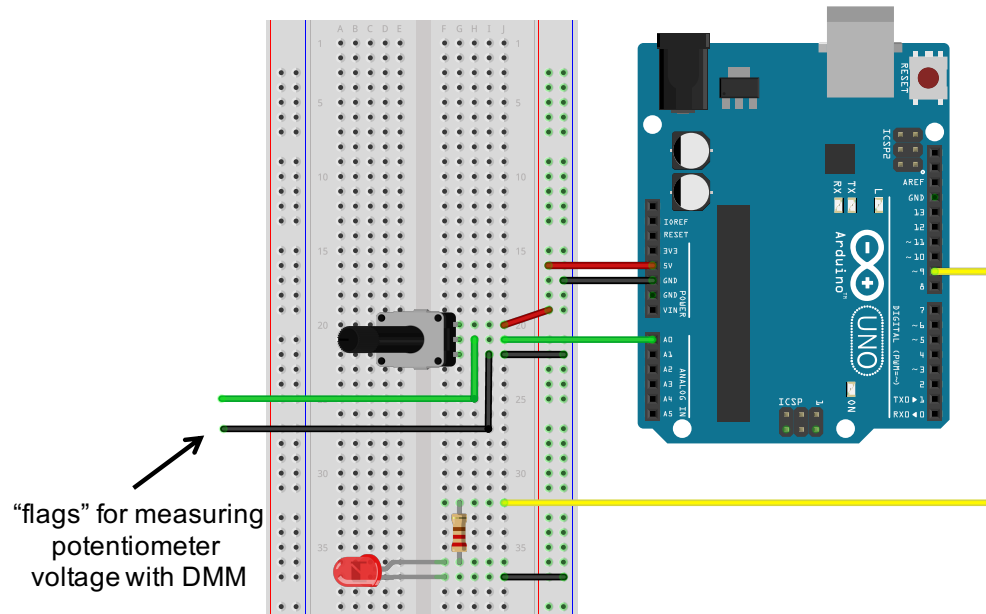

Figure 3 – The potentiometer and LED are mounted in the breadboard and connected to the Arduino.
Shown in Figure 3, the analog input pin A0 of the Arduino reads the voltage from the potentiometer and stores it in memory as a 10-bit integer between 0 and 1023. This 10-bit integer is then linearly mapped to an 8-bit integer between 0 and 255, which controls the duty cycle of the PWM signal from pin 9. (In the code, the “analogWrite” function maps the integer 0 to 0% duty cycle, and 255 to 100% duty cycle.) The LED is connected to this digital output, and its brightness can be logically traced back to the angle of the potentiometer knob.
6. Insert the potentiometer into the breadboard near the top, as shown in Fig. 3. Make the following connections:
8. Connect the LED and a 220Ω in series between digital output pin 9 and ground, as shown in Fig. 3. Make sure that the shorter “cathode” wire of the LED is on the ground (negative) side of the circuit.